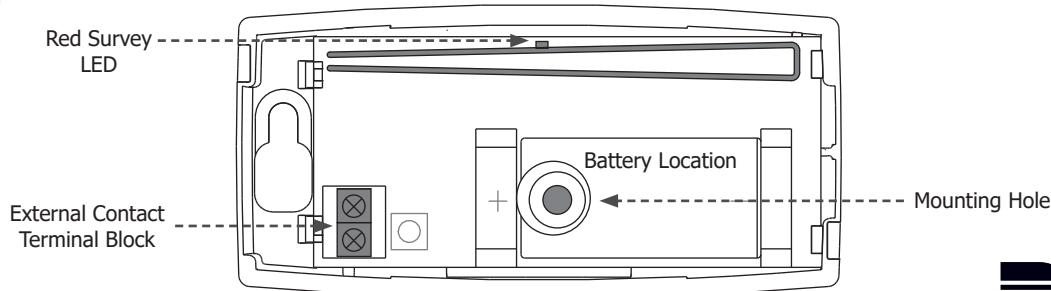

Figure 2: Base Housing Mounting
3. Place one supplied screw into the mounting hole location as shown in Figure 2 and secure the housing to the surface.